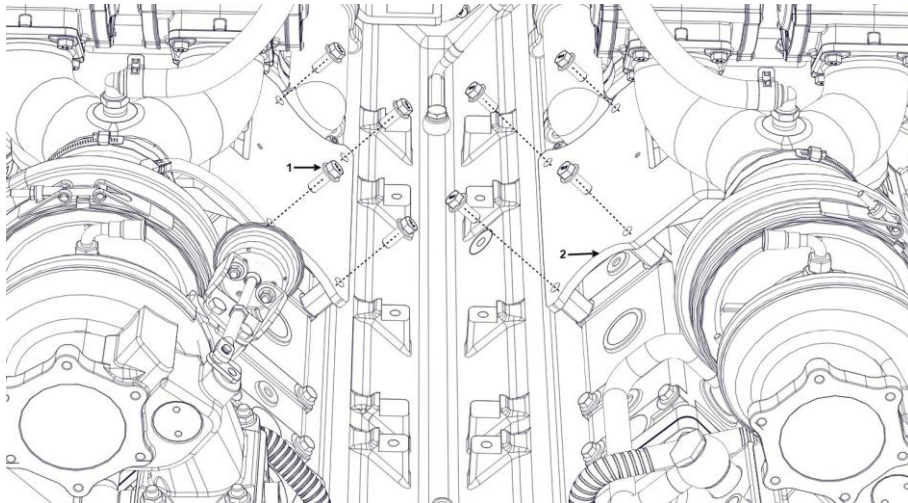

Figure 37. Dual Mixer Bracket Assembly
1. Place the dual mixer bracket towards the back of the engine by the turbochargers over the exhaust manifold. (Refer to Figure 37.)
2. Insert and torque down the four bolts to 60 ft/lbs. (Refer to Figure 37.)